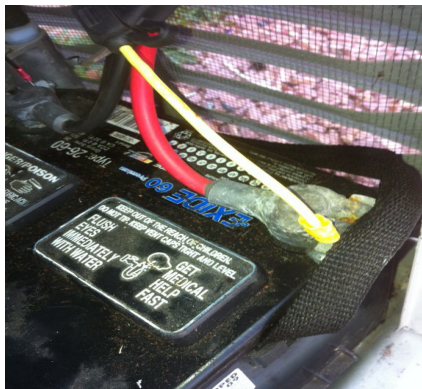

Figure 3-18. Reconnect Battery Cables
22. Loosen and remove the nuts from both the positive and negative terminal screws on the battery cables. Slide the wires over the terminal screws and replace the nuts. Reconnect the red (+) battery cable and tighten securely. Then, install and tighten the black (-) cable. See Figure 3-18.